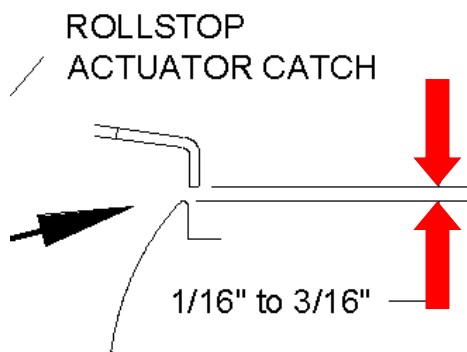

FIGURE 4-21: ROLLSTOP ACTUATOR
12) Refer to **Figure 4-21**. Close Rollstop so that engagement hook clears the inside of actuator catch and listen for “click” from Rollstop closed Switch which signals a change in switch state.